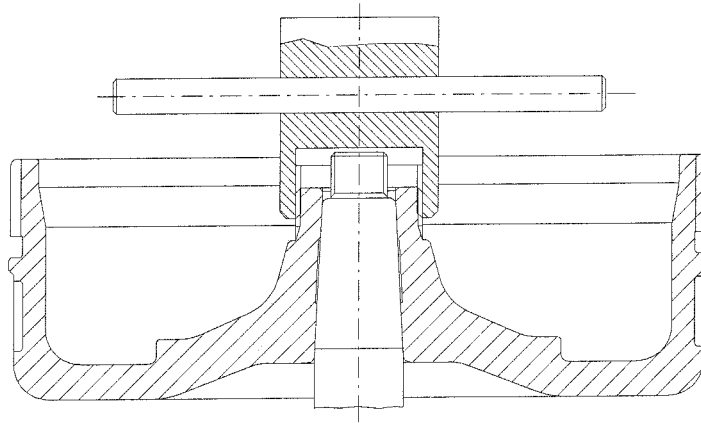

Figure 6.2
- By the spanner (09.080.0) insert the **bowl body** (fig. 6.2). Follow these indications.